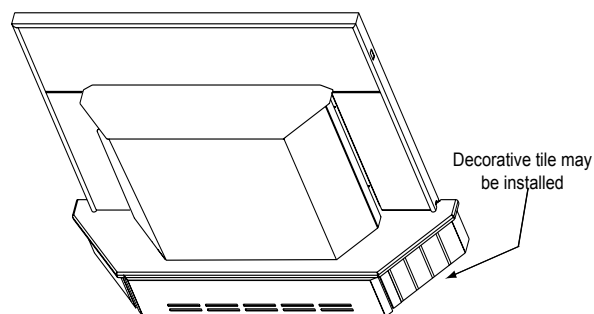

Figure 15C
**NOTE:** 3/8" ( 9.5mm) thick tile or like material can be cut to size and fit under lip of top trim edge for a decorative touch. **See Figure 15C.**